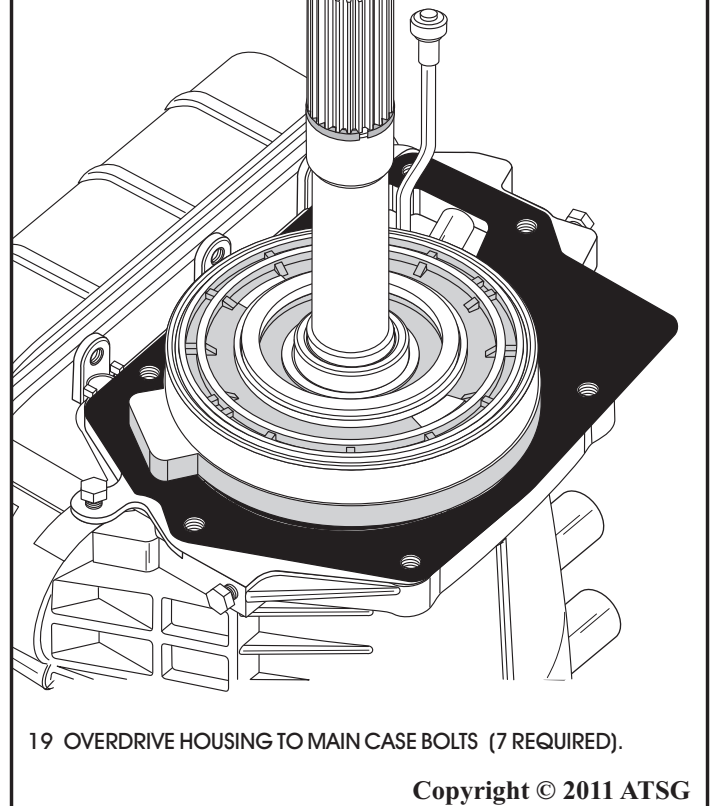

Figure 240
62. Install the completed overdrive assembly onto the intermediate shaft, as shown in Figure 240.
65. Apply Lock-Tite® 242 to the threads of the 7 overdrive section retaining bolts and install, as shown in Figure 240.